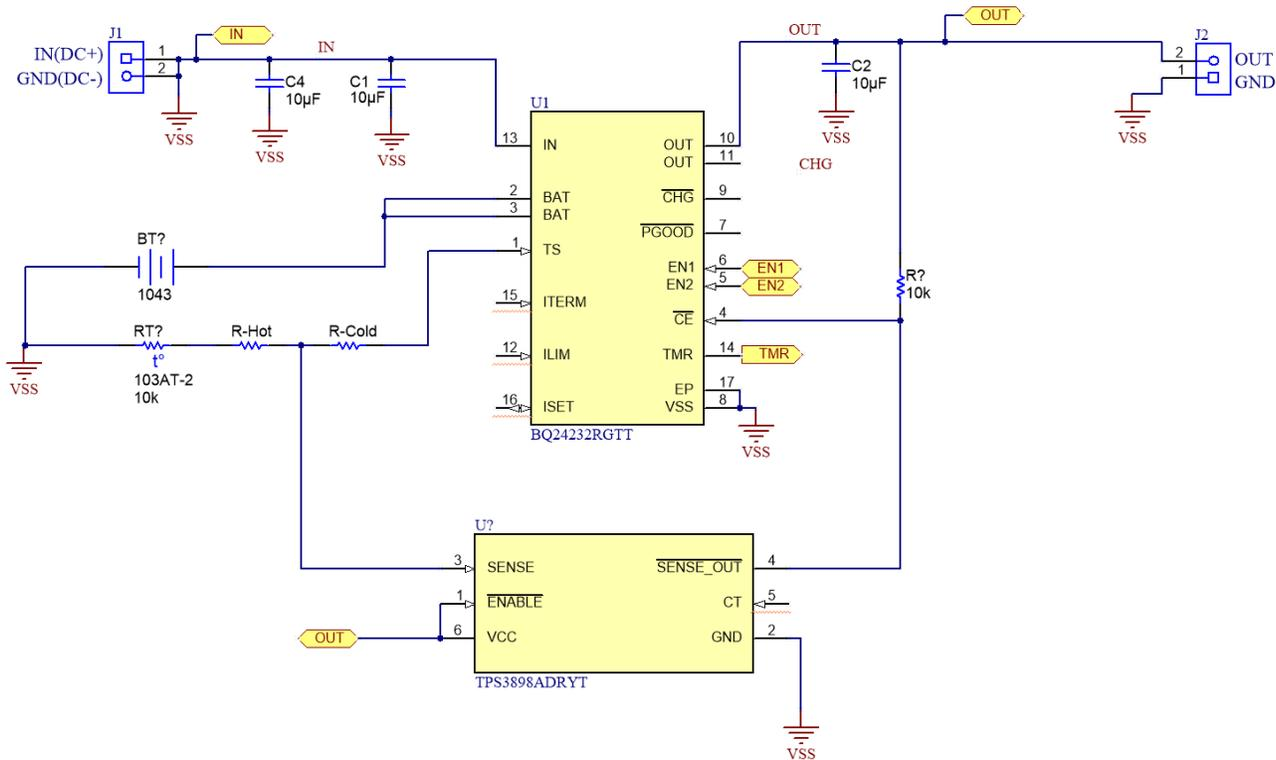

Figure 2. External Voltage Supervisor Solution
Figure 2 show the external circuit with a voltage supervisor used to measure hot temperatures while the BQ2423x continues to monitor cold temperatures. The voltage supervisor uses the Charge Enable (CE) pin to disable charging when the hot temperature is reached. The hot temperature window inside the device is not used, only the cold temperature window.